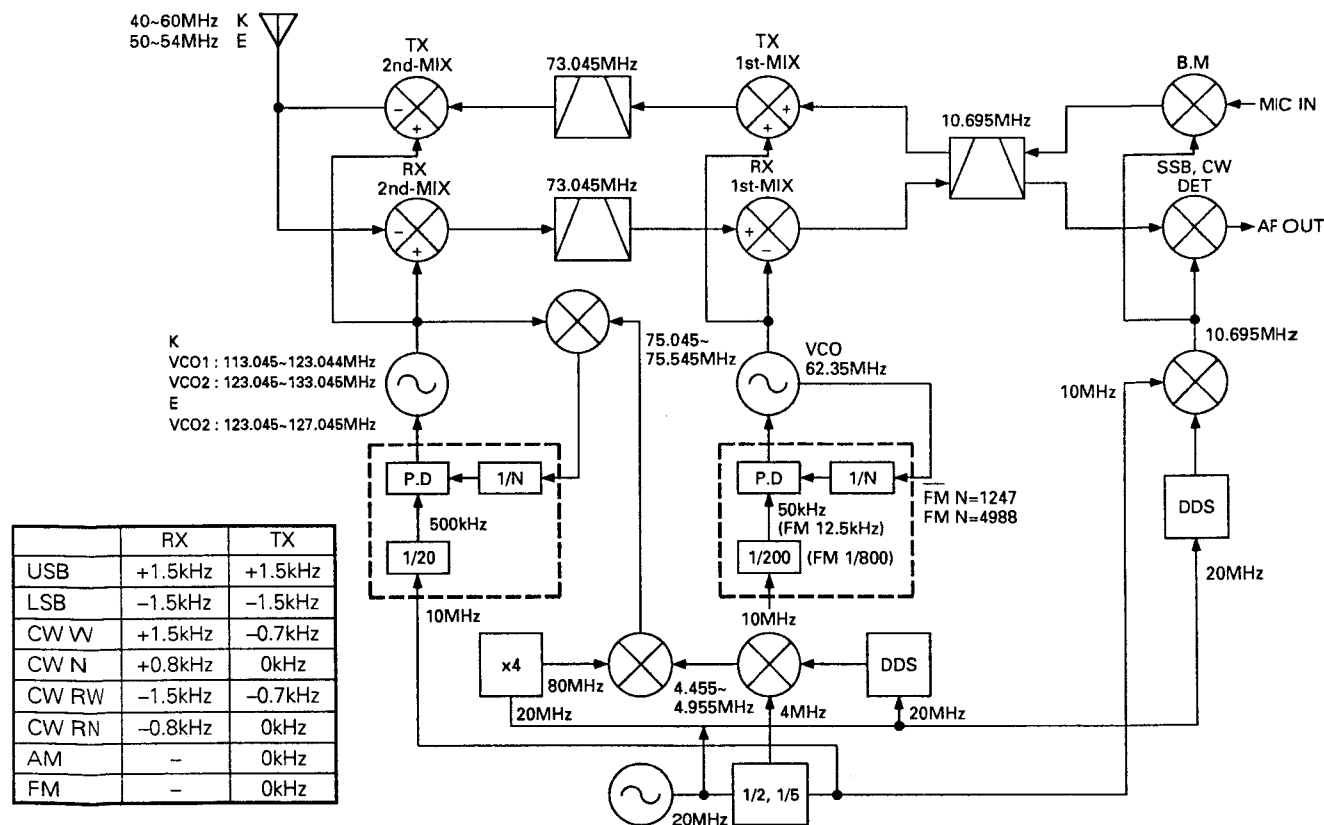
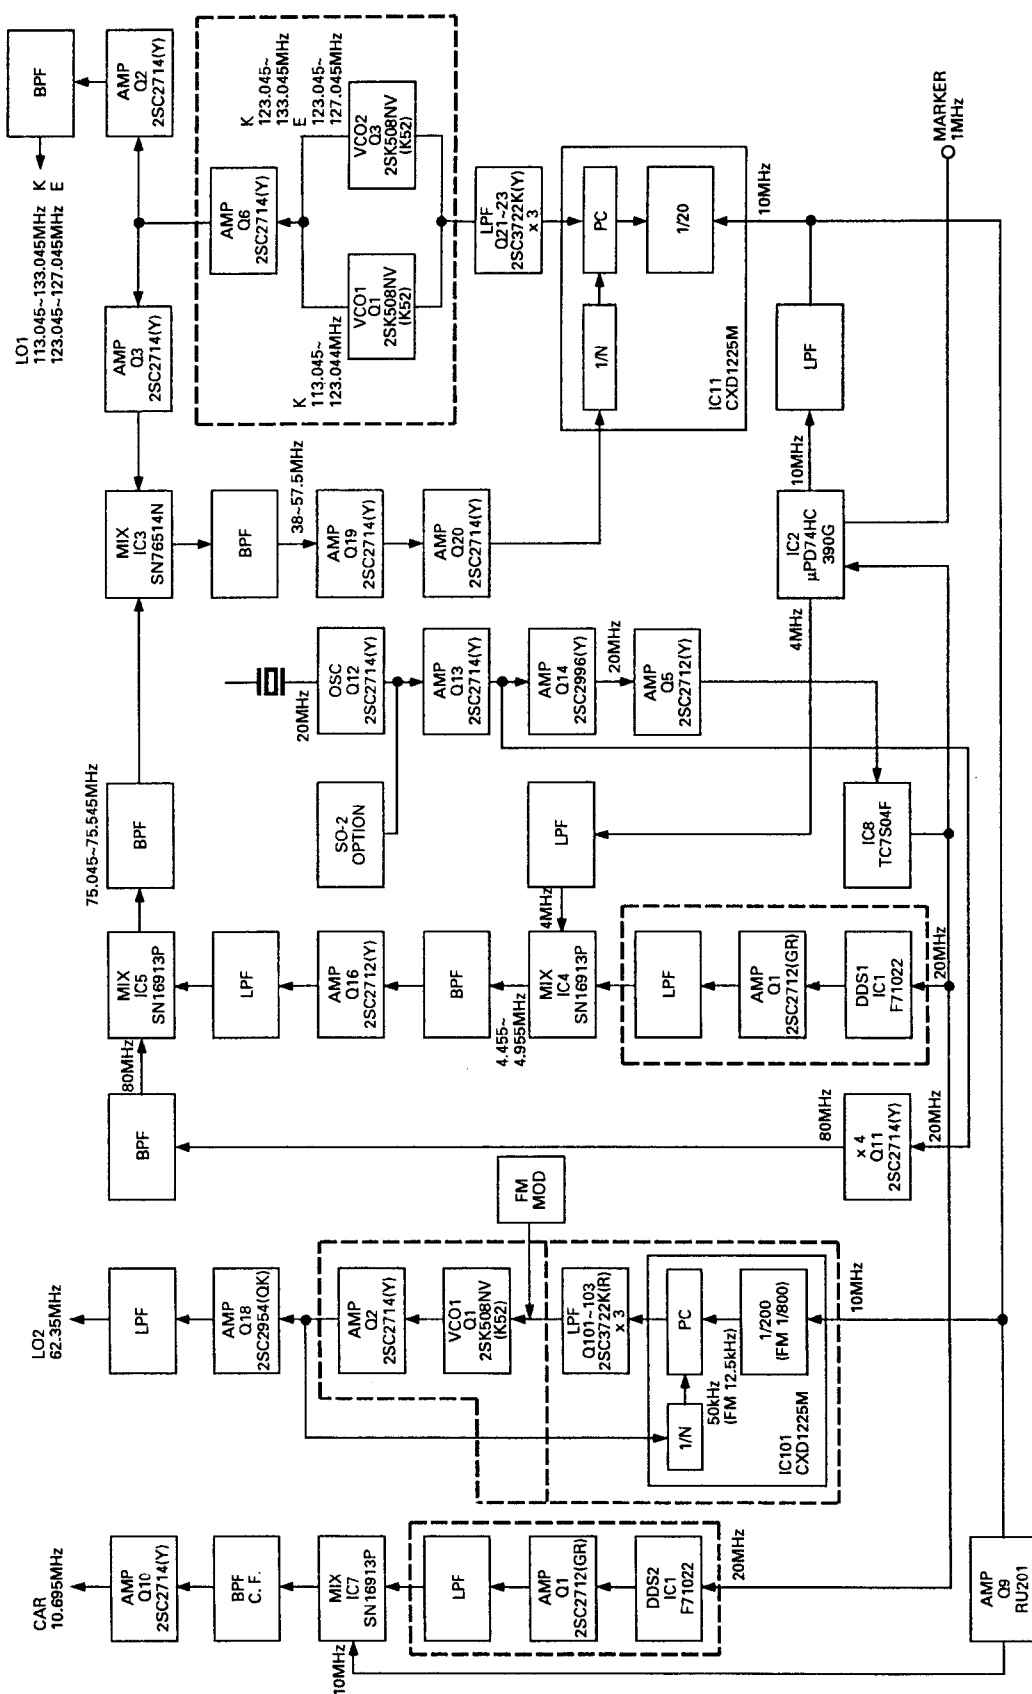

Fig. 2 PLL circuit frequency configuration
Fig. 3 PLL block diagram
Since all these frequencies are generated by the PLL circuit, as shown in Figure 2 (PLL frequency configuration), the receiver frequency is determined only by the reference frequency, f_{STD} , and the PLL divide ratio. This means, the accuracy of the reference frequency determines the accuracy of the operating frequency of the transceiver.
The TS-60S PLL circuit uses a reference frequency of 20MHz, and covers 40 to 60MHz (K), 50 to 54MHz (E) in 5- to 200-Hz steps, depending on how fast the encoder is turned. Figure 2 shows the frequency configuration of the PLL circuit. Figure 3 is a PLL block diagram.